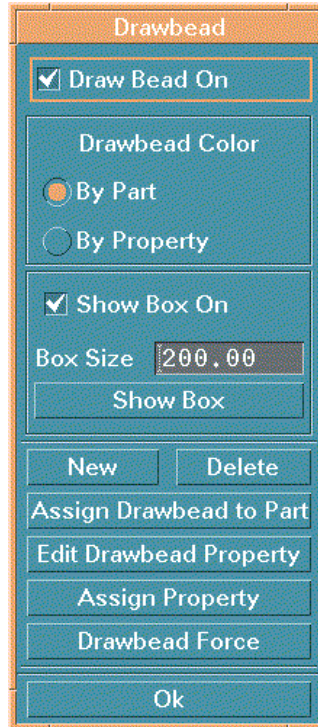

Figure 5.3 Draw Bead
The functions in the DRAW BEAD menu are used to create, modify, and assign draw beads. The dialog window is shown in Figure 5.3.
1. Select NEW in the DRAW BEAD window, see Figure 5.3.